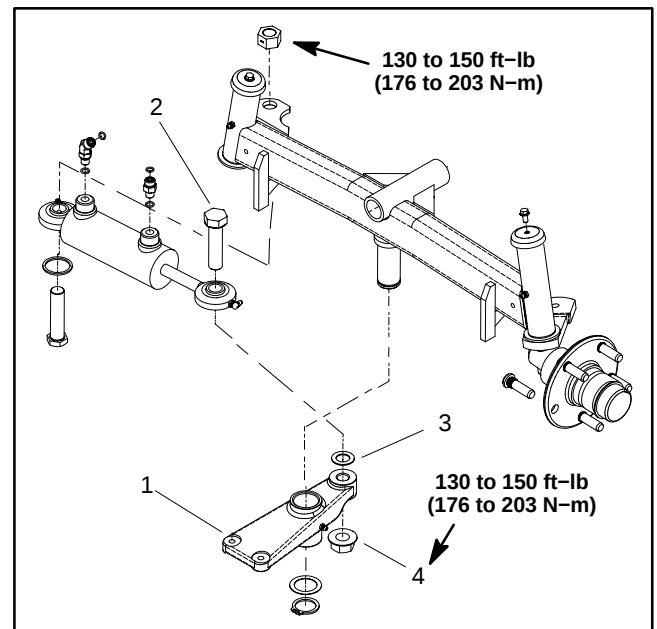

Figure 6
2. Remove the lock nut, cap screw and thrust washer that secure the steering cylinder rod end to the steering pivot plate (Fig. 6).
3. Remove four (4) jam nuts to allow both tie rod ends to be disconnected from the pivot plate. Inspect all tie rod end ball joints for wear or damage and replace as necessary.
4. Remove the retaining ring and thrust washer that secure steering pivot (item 22) to rear axle. Slide the steering pivot off of the mounting pin on the bottom of the axle.
8. Connect each tie rod end to the pivot with two (2) jam nuts. For each tie rod, tighten the first jam nut and then tighten the second jam nut against the first to secure tie rod end.